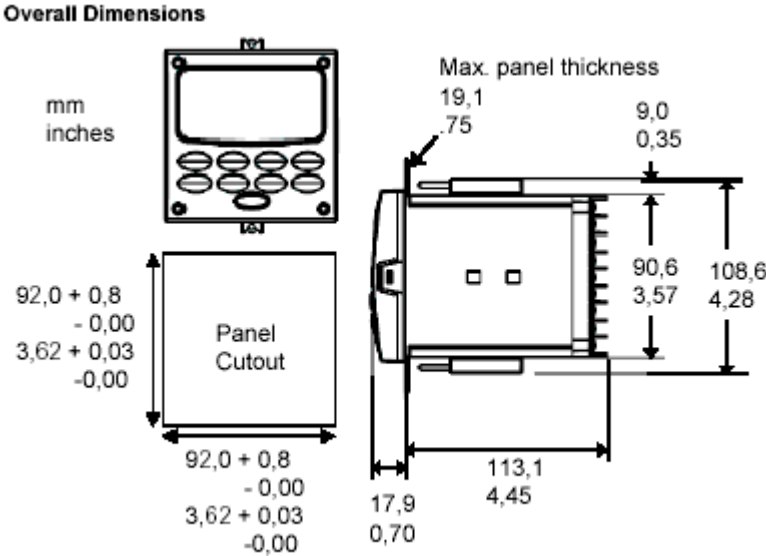

Figure -1 Mounting Dimensions (not to scale)
- Overall dimensions and panel cutout requirements for mounting the controller are shown in Figure -1.
| 1 | Mark and cut out the controller hole in the panel according to the dimension information in Figure -1. |